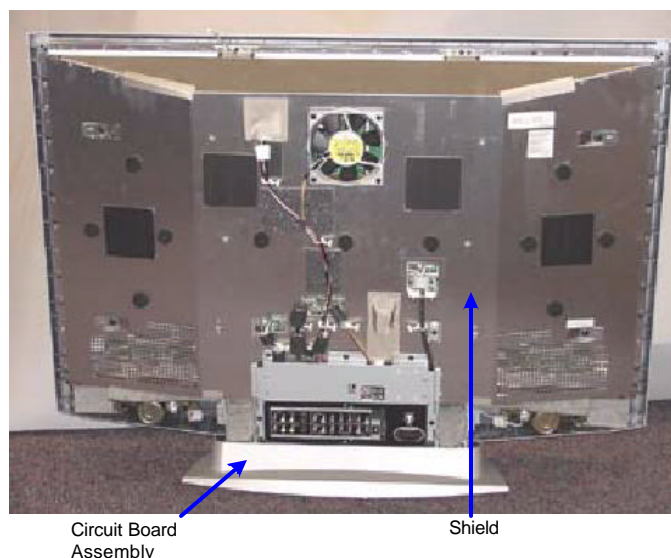

FIGURE 9-2 - BACK WIRES
- Replace the two conductive mesh tapes over the upper and lower holes in the rear shield (refer to Figure 9-2).